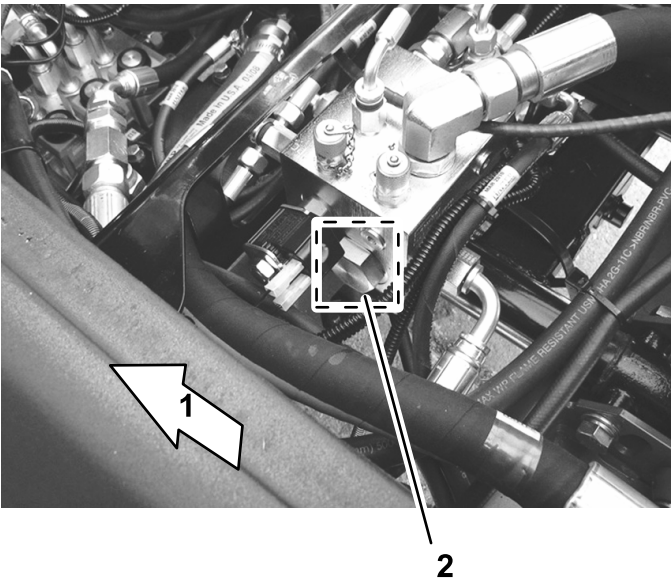

Figure 5
1. Clean the area around the traction manifold of debris (Figure 5).